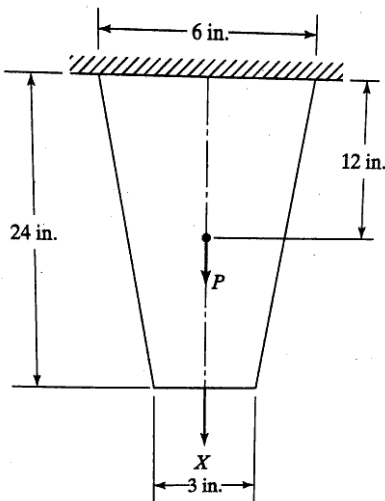

Fig. 2.
- (c) Consider the thin (steel) plate as shown in **Fig. 2**. The plate has a uniform thickness $t = 1$ in., young's modulus $E = 30 \times 10^6$ psi, and weight density $\rho = 0.2836$ lb/in³. In addition to its self-weight, the plate is subjected to a pint load $P = 100$ lb at its mid point. 07